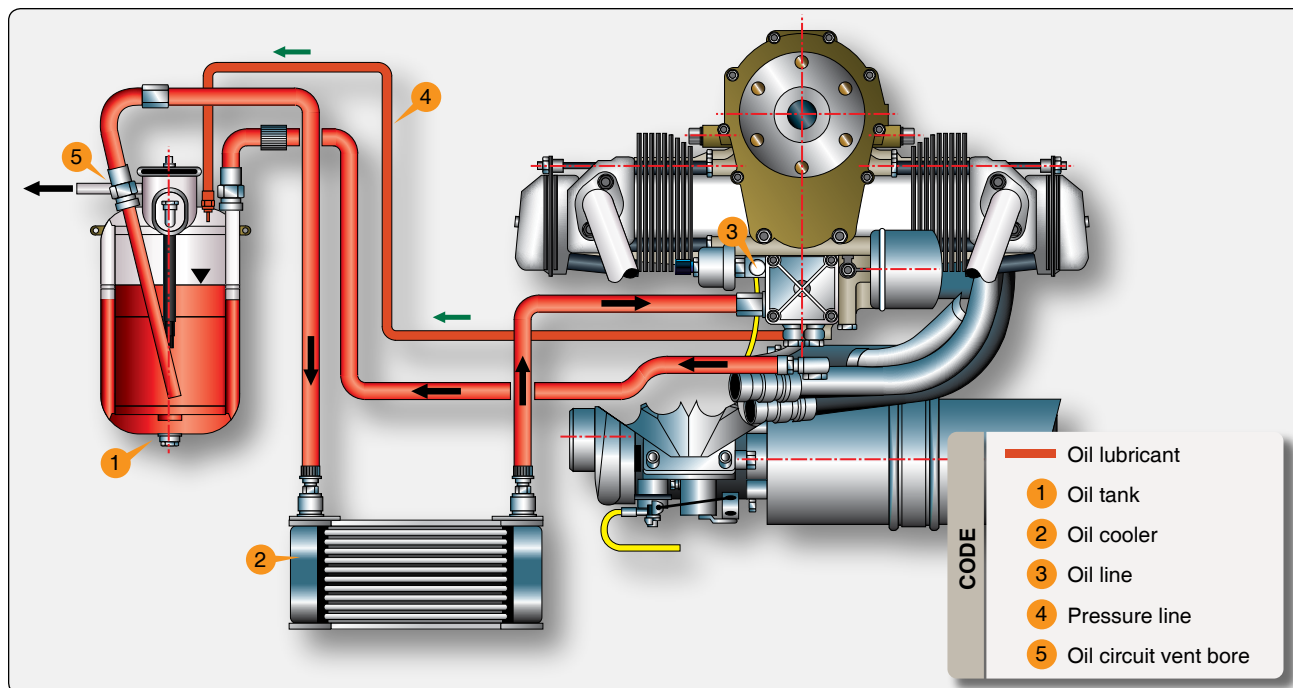

Figure 11-10. *Lubrication system.*
The Rotax 914 engine is provided with a dry, sump-forced lubrication system with a main oil pump with integrated pressure regulator and an additional suction pump. [Figure 11-10] The oil pumps are driven by the camshaft. The main oil pump draws oil from the oil tank (1) via the oil cooler (2) and forces it through the oil filter to the points of lubrication. It also lubricates the plain bearings of the